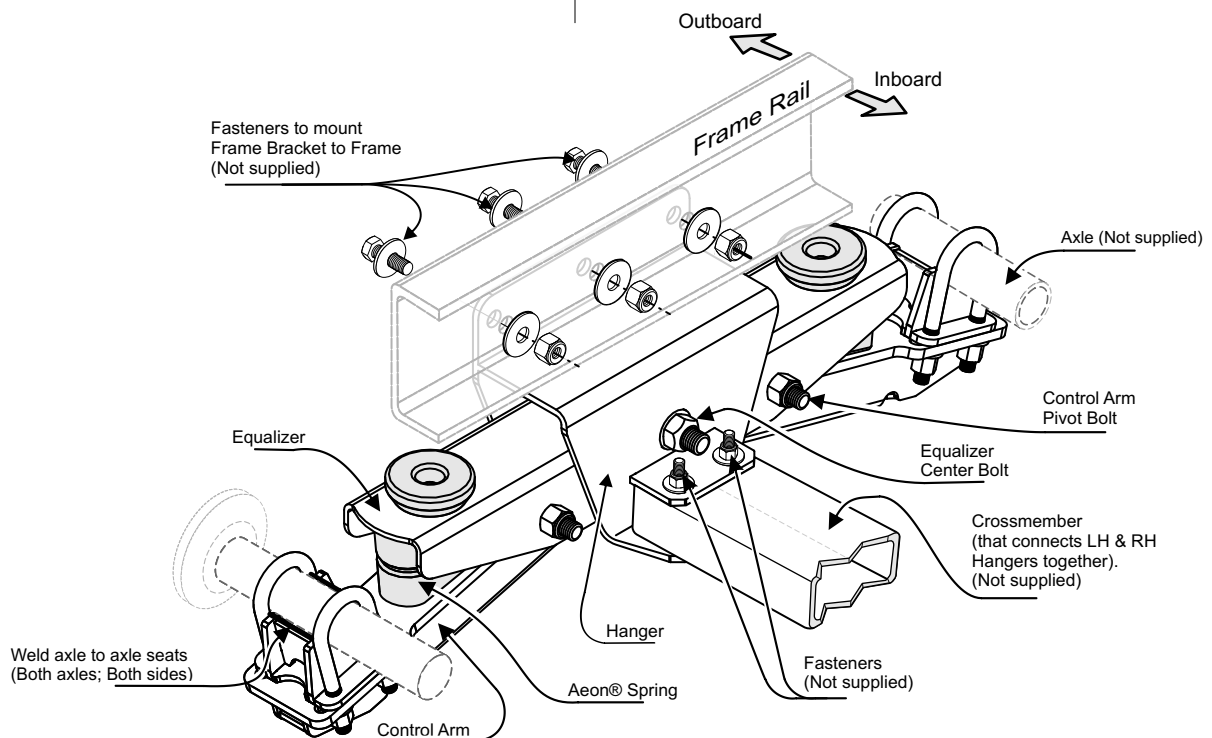

Fig. 1 Installation of suspension to trailer frame
2. Locate hangers on frame rails, opposite to each other. Mate inboard corner faces of each hanger with outboard corner faces of its corresponding frame rail (fig. 1). Move hangers along frame until center of hanger lines up with mark on frame rail at each side. Clamp hangers to frame.
4. Install crossmember: Make a crossmember using a 2"x4"x3/16" Hollow Structural Steel, ASTM A500 Grade C or G40.21 Grade 350W). The length of crossmember must be the measured width of trailer frame less 8½ inches. Locate crossmember between hangers: position each end of it between two horizontal plates that are attached to inboard side of hanger. Make sure hangers are perpendicular to bottom surface of trailer. Tack weld and then weld crossmember to hangers (weld from top and bottom). Crossmember can also be bolted to hanger (fig 1): use existing holes as a template to drill holes. Use ½" bolts (3-1¼" long), washers and nuts to attach crossmember to hangers. Apply a full torque of 70-75 ft- lbs to each nut.
7. Weld axle seats to axles (along axle only), as shown in fig. 1. Use 3/16" fillet weld. Use weld material E70XX.